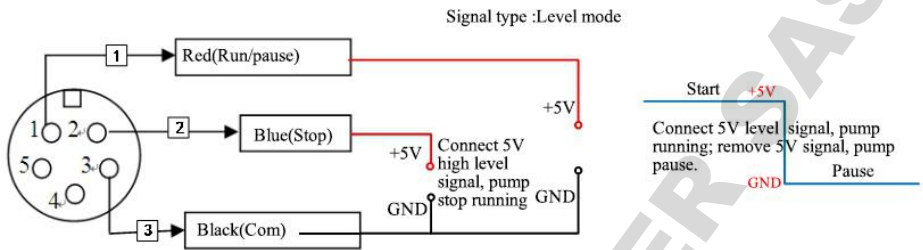

Fig. 16 External control level mode wiring diagram
- First click the MENU button in main interface to enter the main menu, select the external control mode to turn on the level, and then click the ESC button to return to the running interface. Connect the 5-core external control interface on the back of the pump body according to (Figure 16).